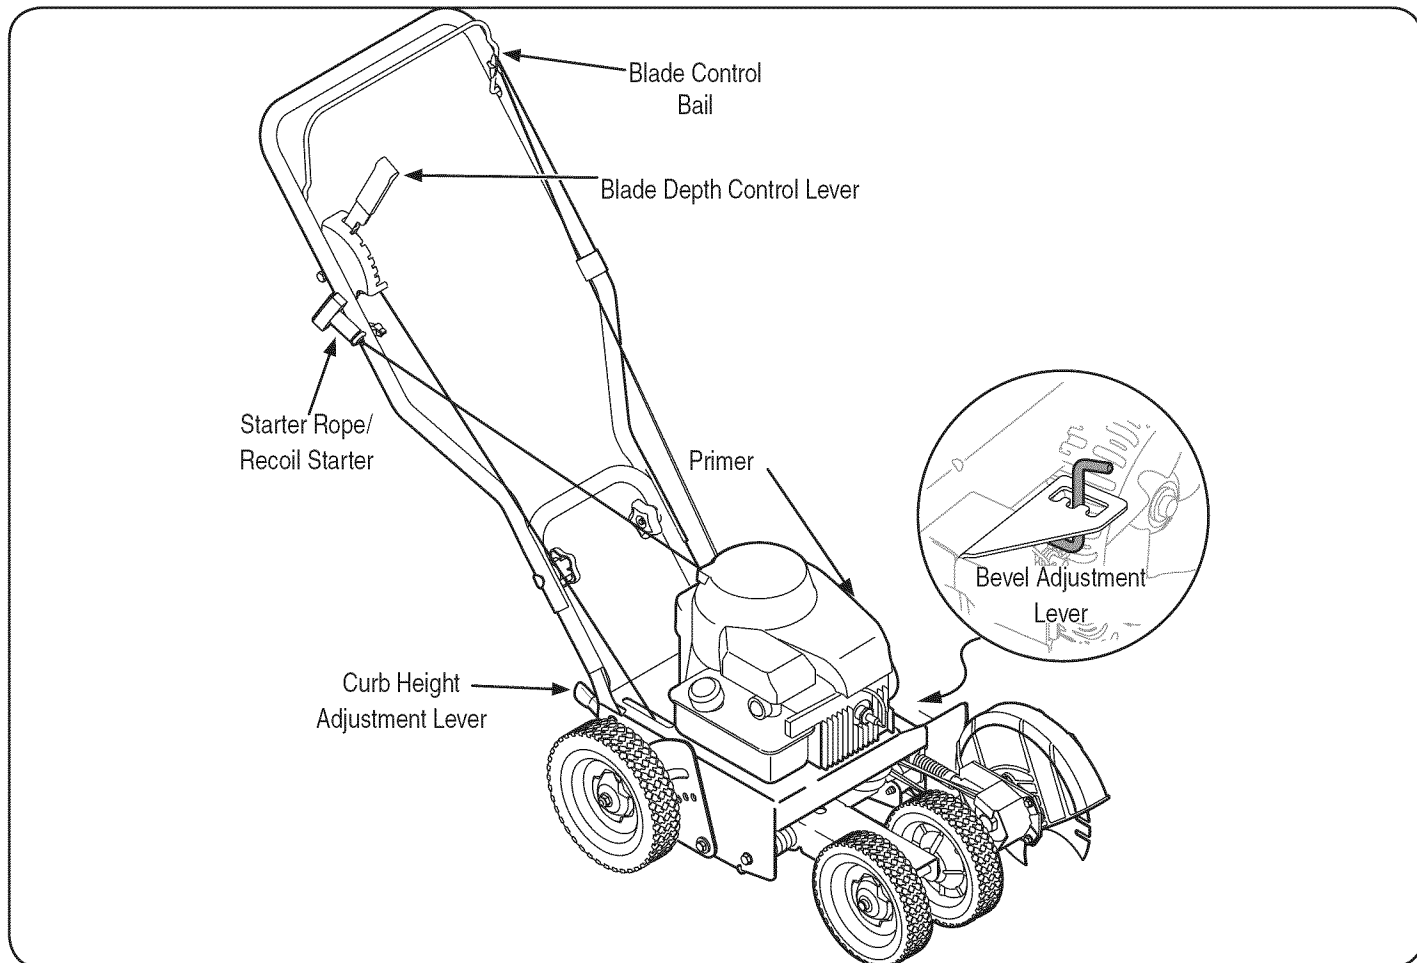

Figure 6
Edger controls and features are described below and illustrated in Figure 6.
2. Pivot the right, rear wheel into an applicable position in relation to the height of the curb to be edged along. See Figure 6.
3. Release the curb height adjustment lever to lock the wheel in position. See Figure 6.